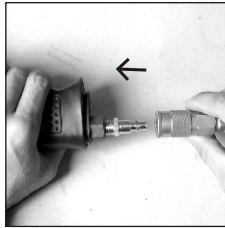

Figure 3
4. Remove the air cap from the tool air inlet and mount the male plug. Connect the air supply hose to the tool. Set the air pressure at 90 PSI. (See Figure 3)